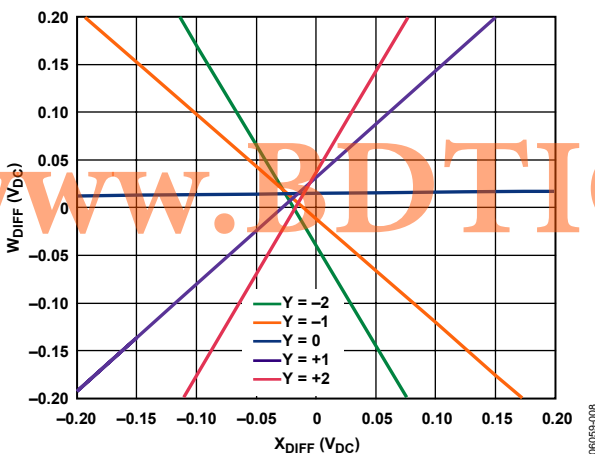

Figure 4. Magnified DC Cross Plots
The dc offset of the ADL5391 is approximately 20 mV but changes over temperature and has variation from part to part (see Figure 4). It is generally not of concern unless the ADL5391 is operated down to dc (close to the point $X = 0$ V or $Y = 0$ V), where 0 V is expected on the output ($W = 0$ V). For example, when the ADL5391 is used as a VGA and a large amount of attenuation is needed, the maximum attenuation is determined by the input dc offset.
The dc component of the output is related to the square of both the offset (OFST) and the signal input amplitude (E). The offset can be found in Figure 4 and is approximately 20 mV. The second harmonic output grows with the square of the input amplitude, and the signal bleedthrough grows proportionally with the input signal. For smaller signal amplitudes, the signal bleedthrough can be higher than the second harmonic component. As the input amplitude increases, the second harmonic component grows much faster than the signal bleedthrough and becomes the dominant signal at the output. If the X and Y inputs are driven too hard, third harmonic components will also increase.